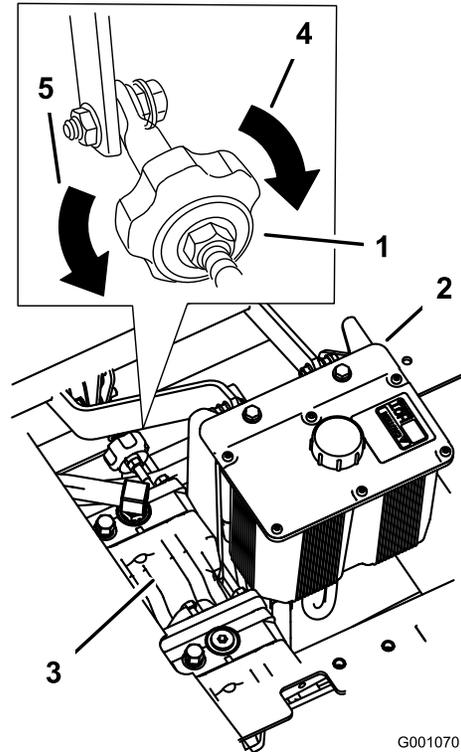

Figure 52
4. To make the machine go right, turn the knob towards the right side of the machine. Refer to Figure 52.
5. To make the machine go left, turn the knob towards the left side of the machine. Refer to Figure 52.